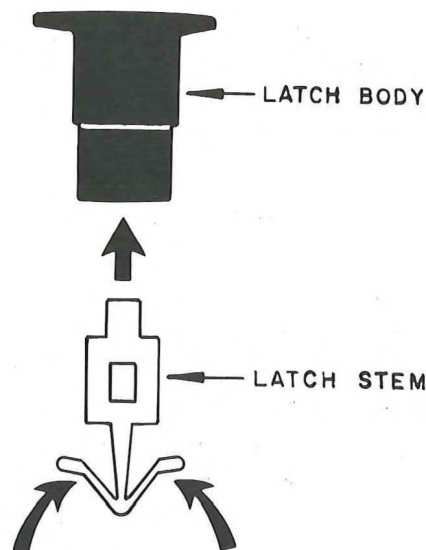

FIG. 2
- 5) Insert the latch stem into the latch body as shown in Fig. 2 making certain the latch stem is inserted completely by squeezing the flexible wings together.